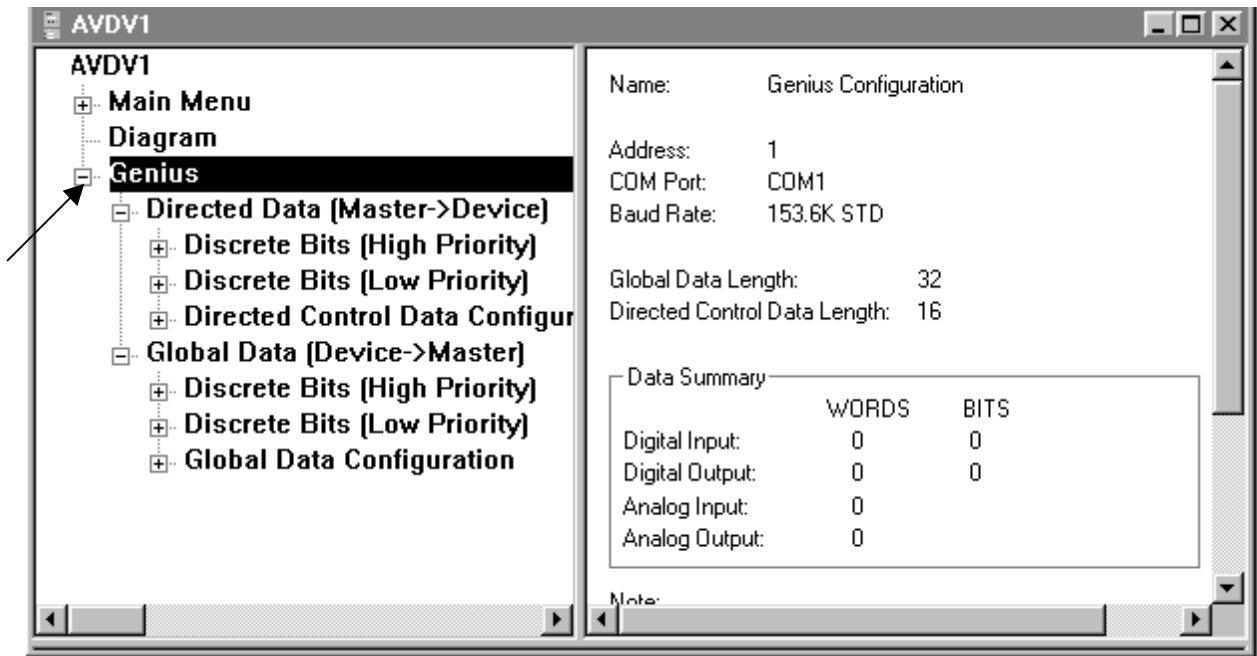

Figure 3.21
19. Put the cursor in front of the Expand/Collapse box in front of Discrete Bits (High Priority) and click. Figure 3.21 appears.